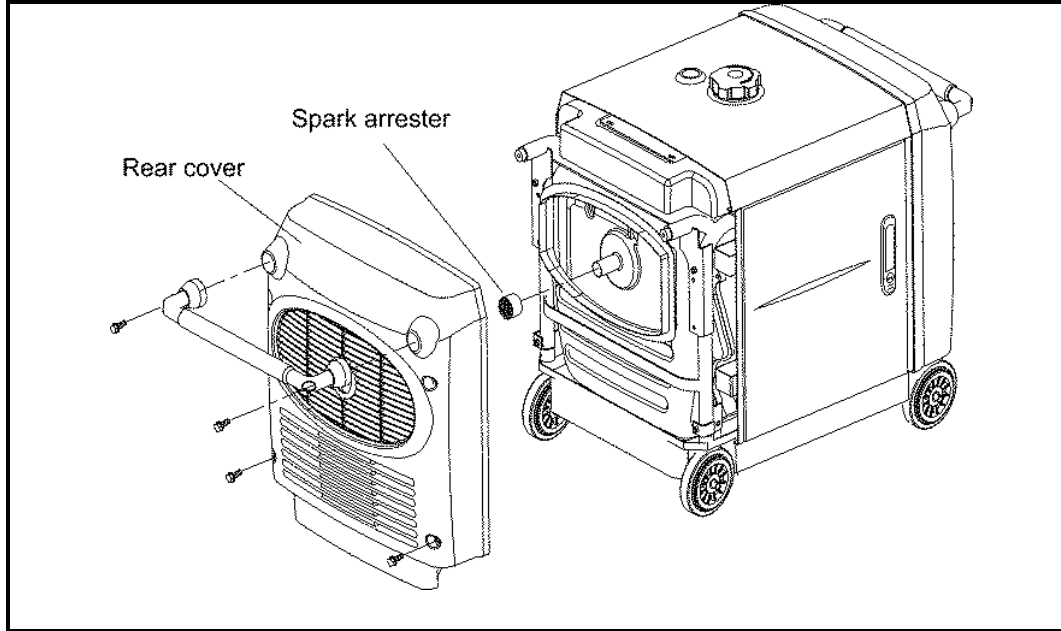

Figure 30 Dismantle the spark arrester
7.5 Spark arrester service (See figure 30)